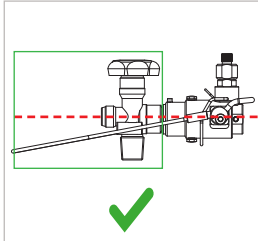
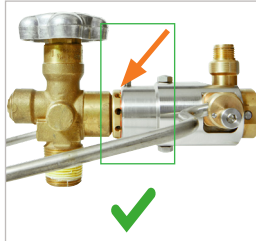
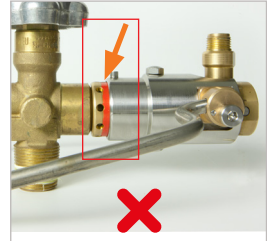

Figure 10
Figure 11
Figure 12
- ▶ Fold the bail actuation (pos. 6) upwards. It must be possible to lift the bail easily and without any force. In its end position, the wire rope must be below the horizontal of the connector (*Figure 10*). The red marking on the front part (pos. 3) must disappear under the housing and must no longer be visible (*Figure 11* and *Figure 12*).